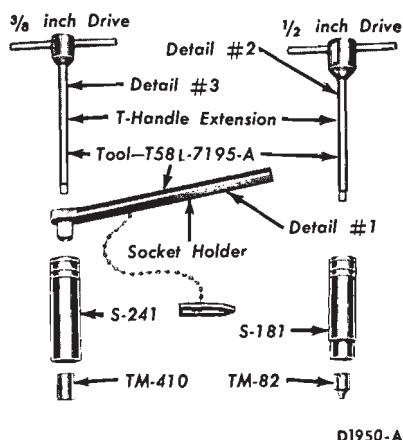

FIG. 14—Front Band Adjusting Tools
4. Pull the adjusting screw end of the actuating lever away from the servo body, and insert the 1/4 inch spacer (Fig. 14) between the servo piston stem and the adjusting screw.